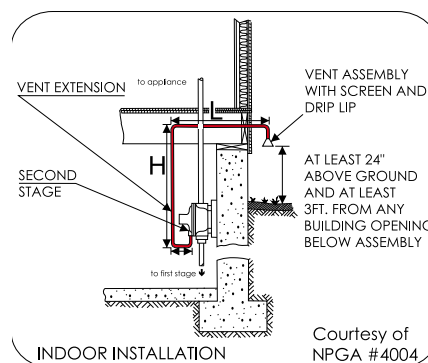

Figure 5
If the second stage regulator has to be installed inside the building, the gas flow through the venthole has to be vented outdoors. See figure 5. For this reason some precautions must be taken:
- Keep pipe length of bends to a minimum to prevent eventual loss of capacity compatible with normal valve function. In figure 5 you can find the dimensions to respect the valve's normal function (H = 39 inch; L = 31 inch).